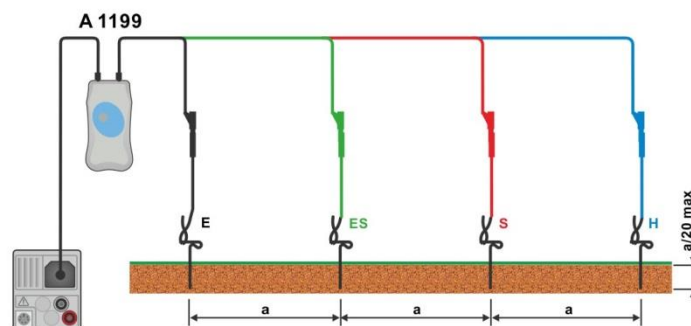

Figure 7.56: Specific earth resistance measurement
- › Connect test leads to earth probes, see **Figure 7.56**.